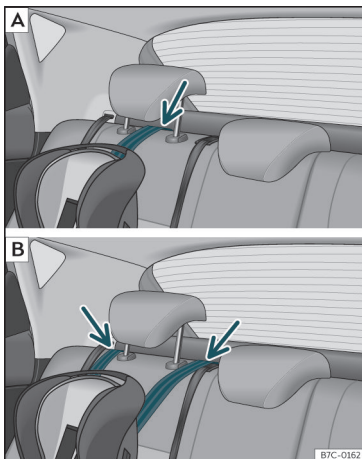

Fig. 34 Retainer strap: adjustment and assembly according to the Top Tether belt.
- Place the belt under the head restraint of the back seat >>> **Fig. 34** (depending on the instructions of the chair itself, lift or remove the head restraint if necessary).